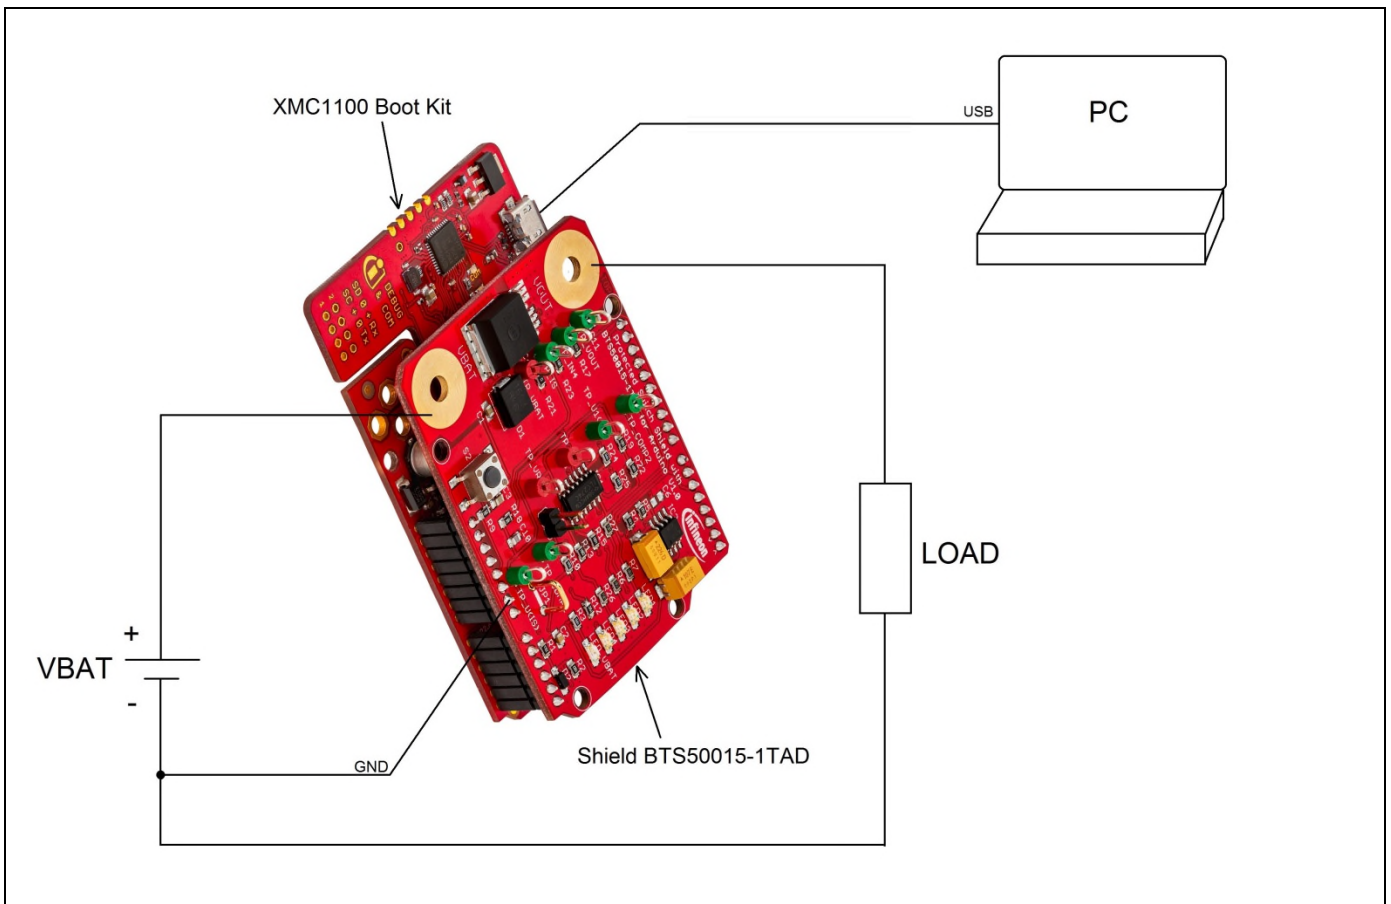

Figure 10 Example circuit of BTS50015-1TAD shield and XMC1100 Boot Kit
- Connect the GND of shield's with the ground of your power supply. Connect the output of the terminal (VOUT) with your load and the load to the GND of your power supply. Now connect the plus pole of the power supply to VBAT of the shield. Your power supply should not exceed 18V for nominal operation. Please see also figure 10 at next page.